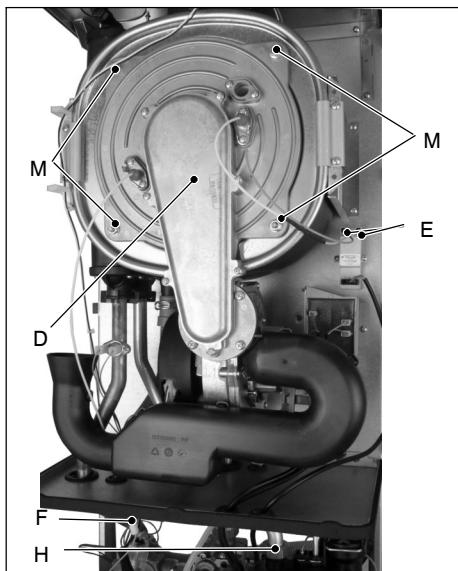

Fig. 9.5
To remove the burner-fan group D (Fig. 9.5):
- 3 Disconnect the connectors of the ignition electrodes E and detection electrode F (Fig. 9.5).
- 5 Unscrew the gas connector H (Fig. 9.5).
- 8 Remove the nuts M (Fig. 9.5) and the burner-fan group D.